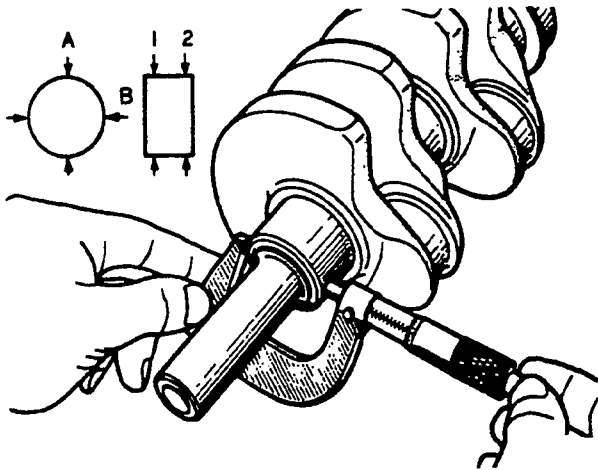

FIGURE 9-57. MEASURING JOURNAL OUTSIDE DIAMETER
- Measure the outside diameter of the journals and pins (Figure 9-57). If excessive taper and wear are evident, machine to undersize.